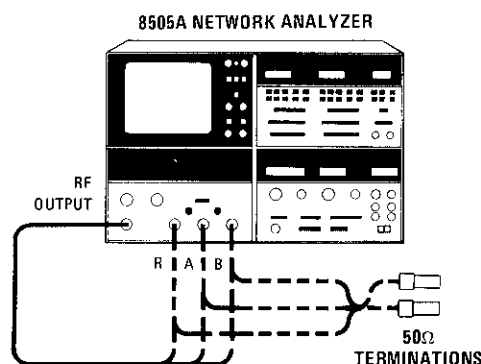

Figure A4-8. Crosstalk Isolation Test Setup
- b. Connect equipment as shown in Figure A4-8 with the RF output cable connected to "R" port and "A" and "B" ports terminated with 50-ohm loads.